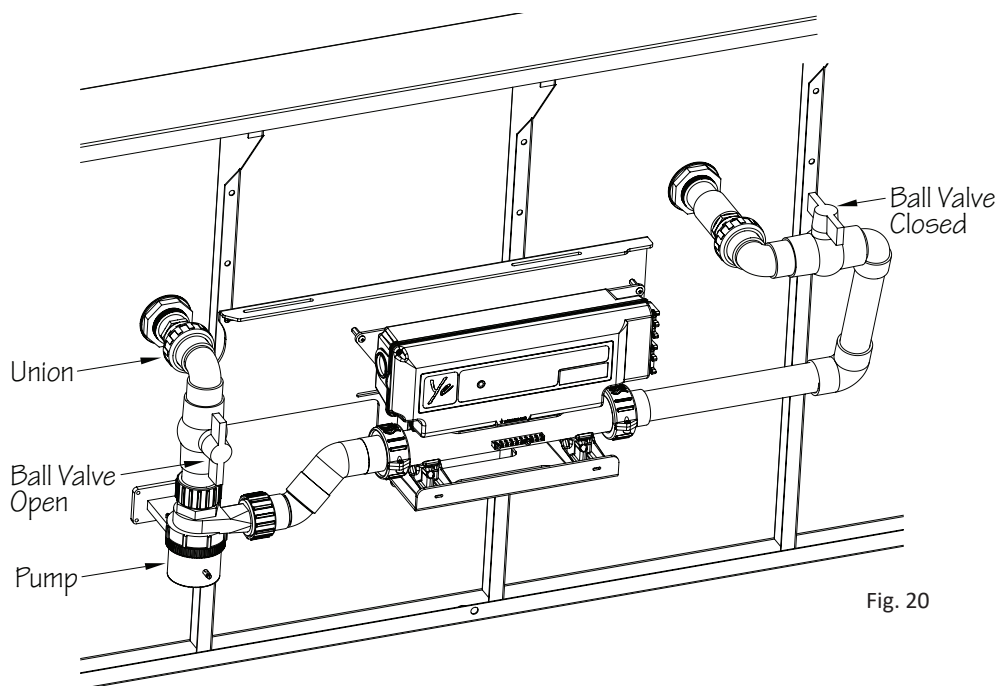

Fig. 20
3. Prior to completing this step, **cover the pump with a towel to prevent it from getting wet.** Partially crack the Union open that is at the top of the pre-plumbed assembly above the pump (Fig. 20). This will allow any air trapped in the plumbing to escape. Once all air has been released, tighten the Union, open the Ball Valve, and re-supply power to the equipment. Allow up to 5 minutes for the controller to fully re-boot.